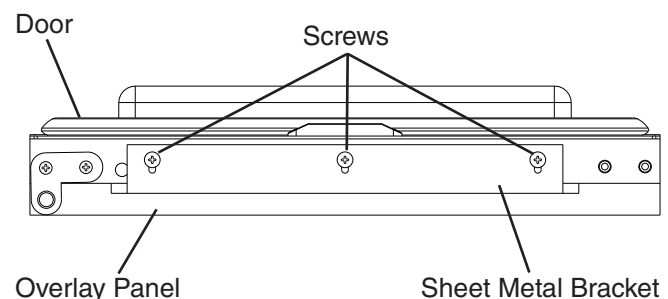

Fig. 25
- 6) Fasten the sheet metal bracket to the bottom of the door with the three T2 screws provided. Tighten the screws to the door. See Fig. 25.